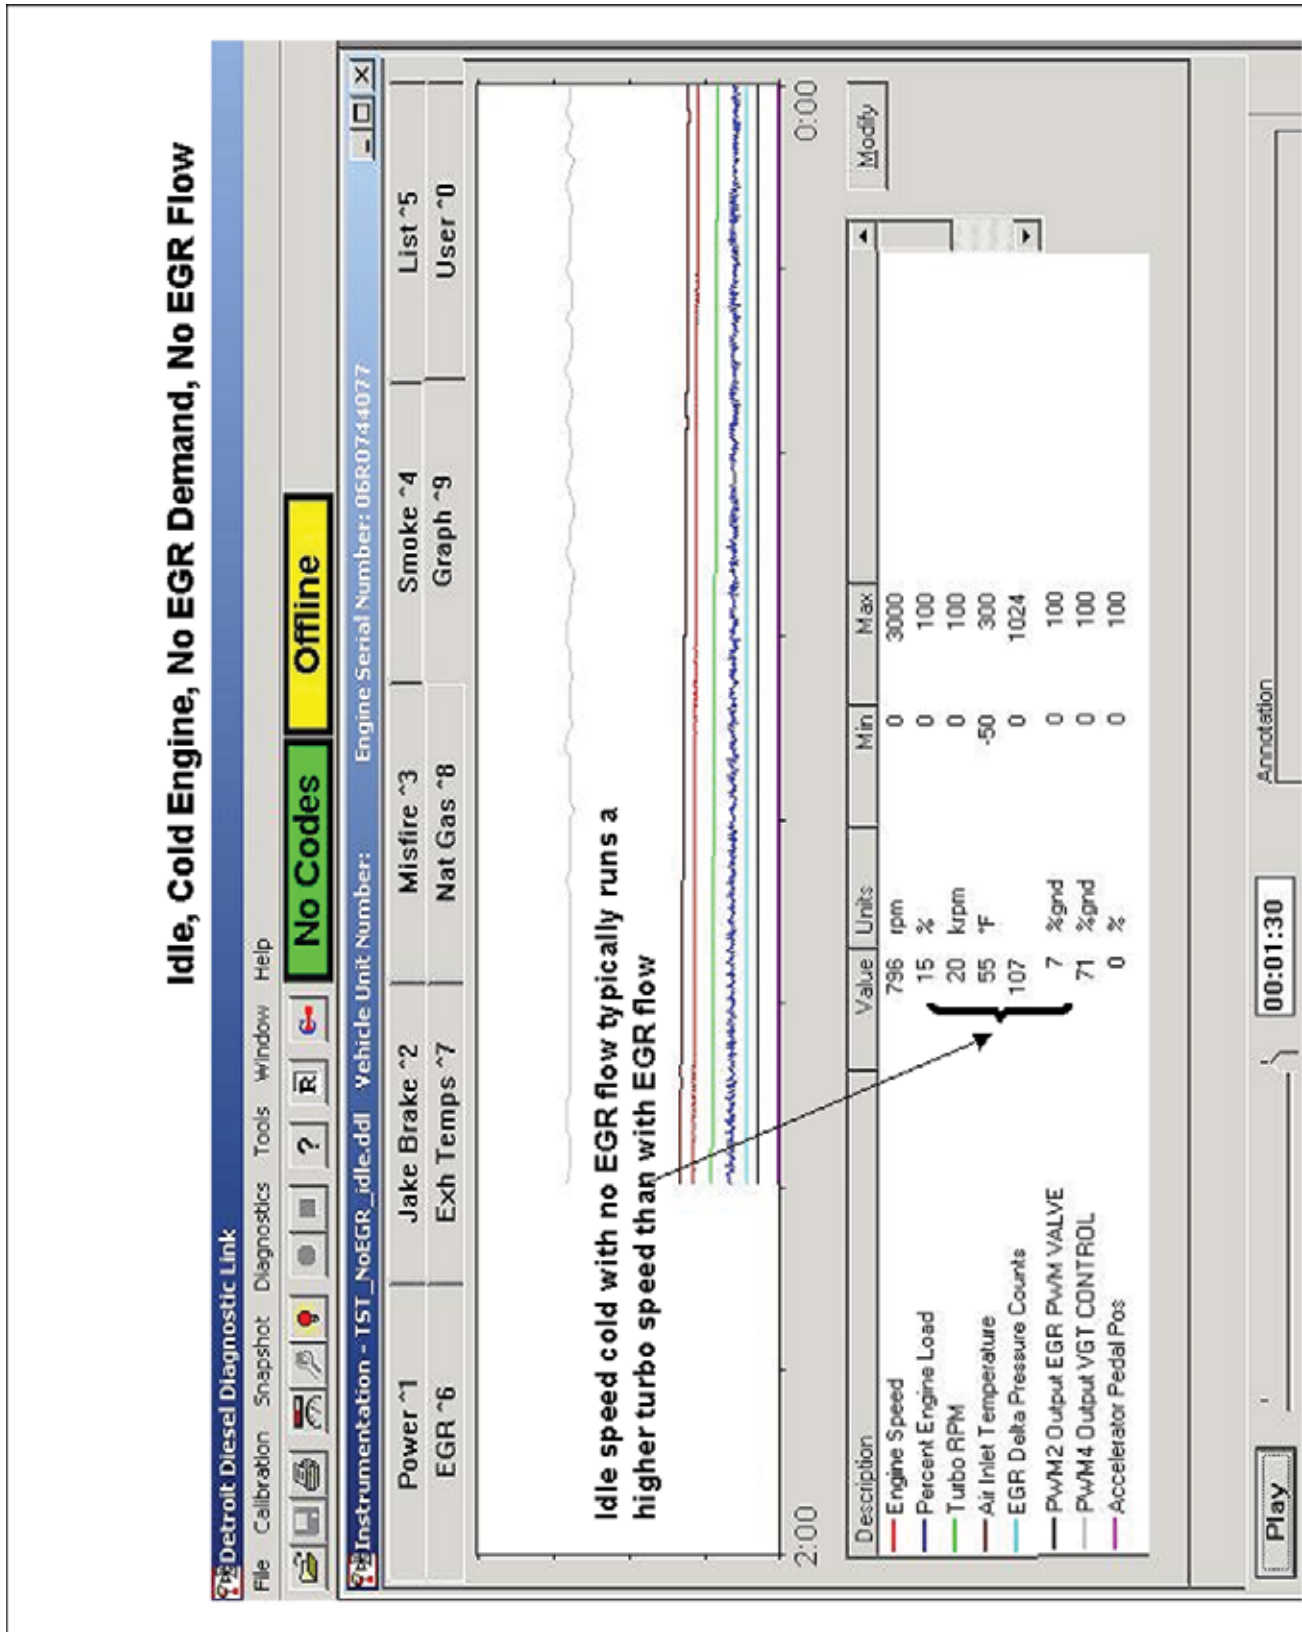

Figure 7-2 Idle — Cold Engine — No EGR Demand — No EGR Flow
- Cold Idle operation without EGR flow. See Figure 7-2.